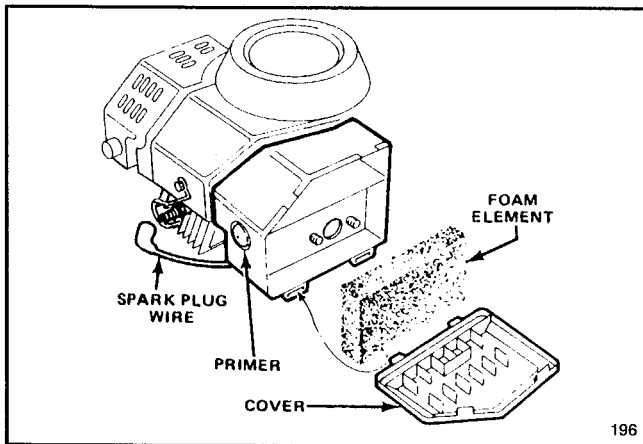

Figure 19
1. Stop engine and pull wire off spark plug (Fig. 19).
2. Lift tabs at top of air cleaner cover and pivot cover down. Clean cover thoroughly (Fig. 19).
3. If outside of foam element is dirty, remove it from air cleaner body (Fig. 19). Clean thoroughly.